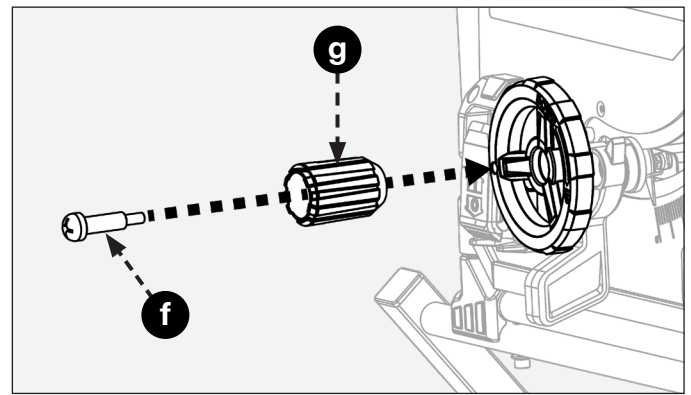

FIGURE 11
- Insert shoulder screw (f) into height adjustment knob (g) as shown in Fig. 11.